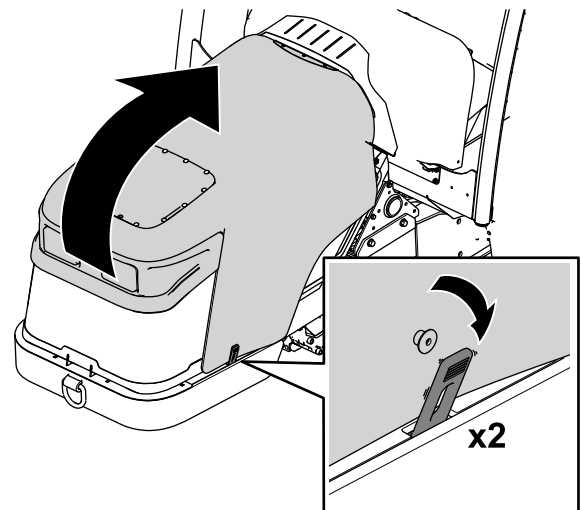

Figure 70
1. Release the straps from each side of the machine (Figure 70).
2. Raise the hood (Figure 70).